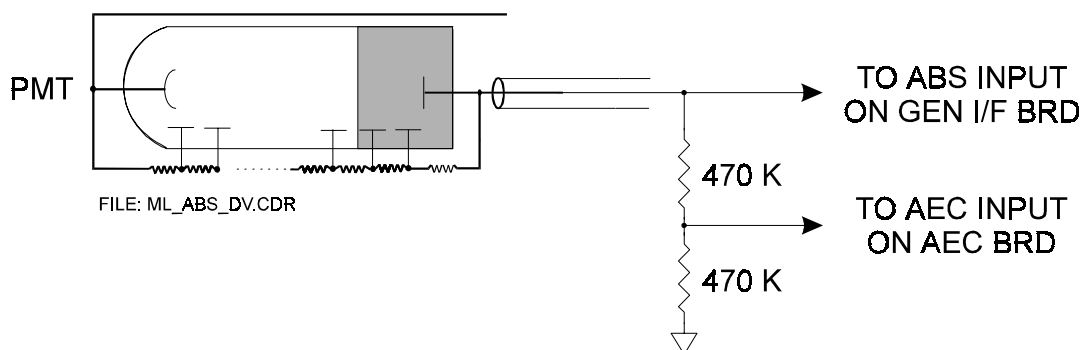

Figure 3D-12: Connections for PMT AEC
1.	Route the output signal from the PMT to AEC input channel 4 as per figure 3D-12. The resistor divider network will need to be provided by the installer. Appropriate high voltage shielded cable should be used for the PMT signal connections.
2.	Set the PMT voltage to approximately -650 VDC for AEC operation using R19 on the AEC interface board. Note that AEC channel 4 must be selected in order for R19 to be made active. USE TP5 ONLY ON THE AEC INTERFACE BOARD (FIGURE 3D-10, 3D-11) FOR THE HV METER GROUND WHEN MEASURING PMT HIGH VOLTAGE. CONNECT THE GROUND LEAD FIRST BEFORE MEASURING THE HIGH VOLTAGE. DO NOT ATTEMPT TO MEASURE THIS WITHOUT A SUITABLE METER.